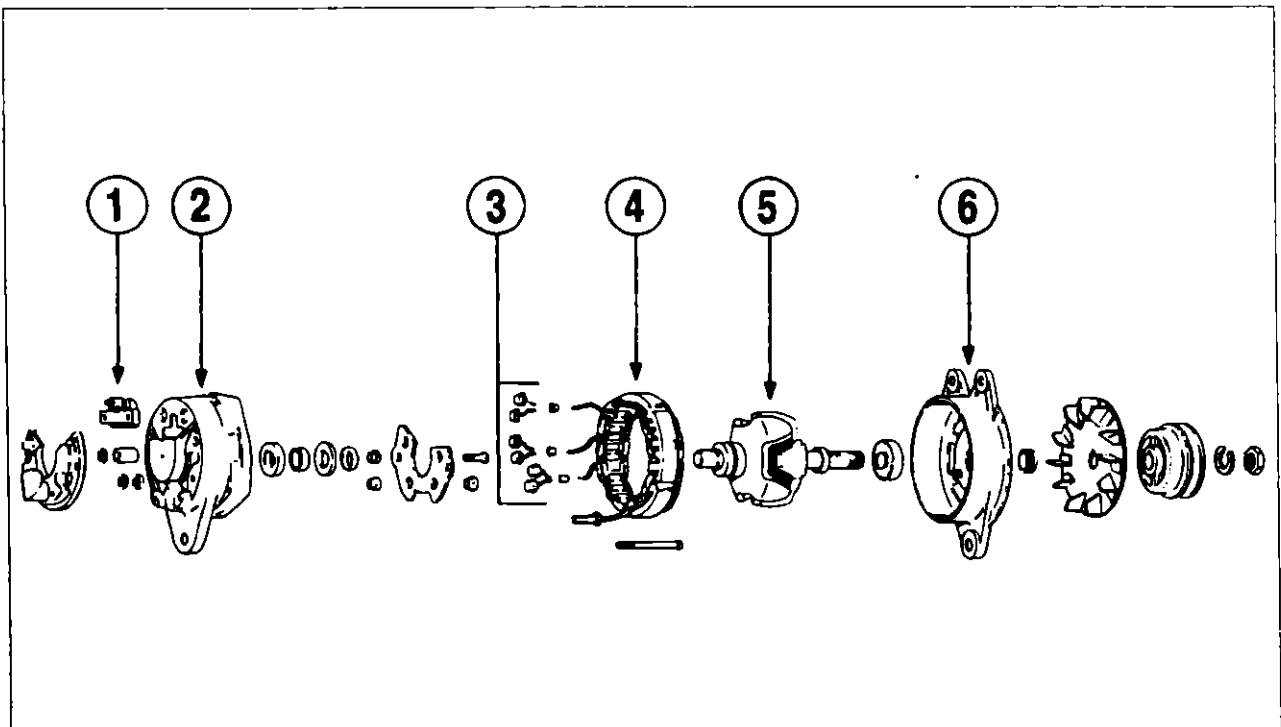

Figure 9-27a. Exploded View of Alternator
9-61b. Description of Alternator. (Refer to Figure 9-27a.) The principal components of the alternator are the brush holder assembly (1), the slip ring end head (2), the rectifiers (3), the stator (4), the rotor (5) and the drive end head (6).